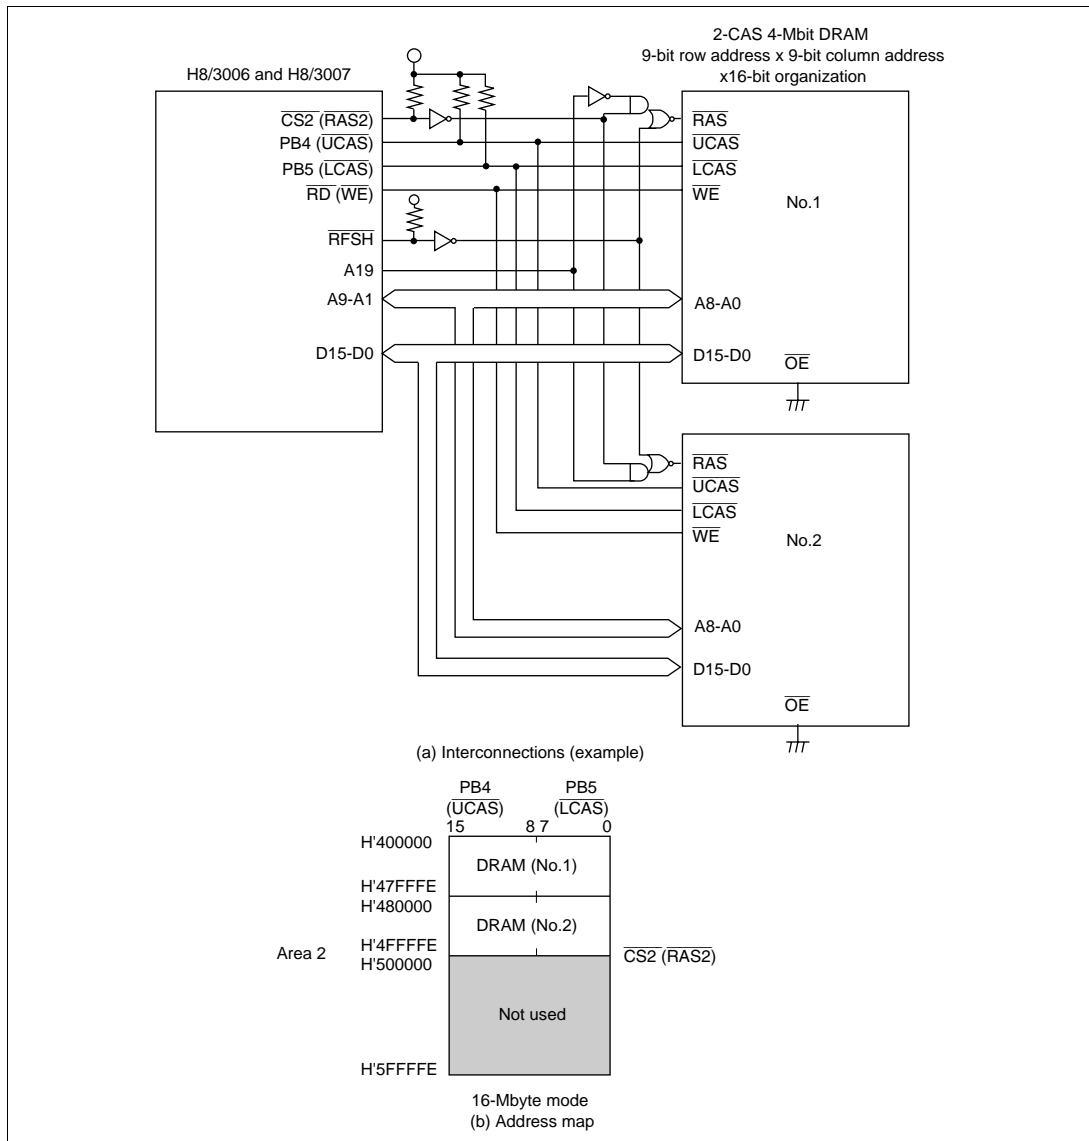

Figure 6.31 Interconnections and Address Map for 2-CAS 4-Mbit DRAMs with $\times 16$ -Bit Organization
- Figure 6.31 shows typical interconnections when using two 4-Mbit DRAMs, and the corresponding address map. The DRAMs used in this example are of the 9-bit row address \times 9-bit column address type. In this example, upper address decoding allows multiple DRAMs to be connected to a single area. The $\overline{\text{RFSH}}$ pin is used in this case, since both DRAMs must be refreshed simultaneously. However, note that RAS down mode cannot be used in this interconnection example.